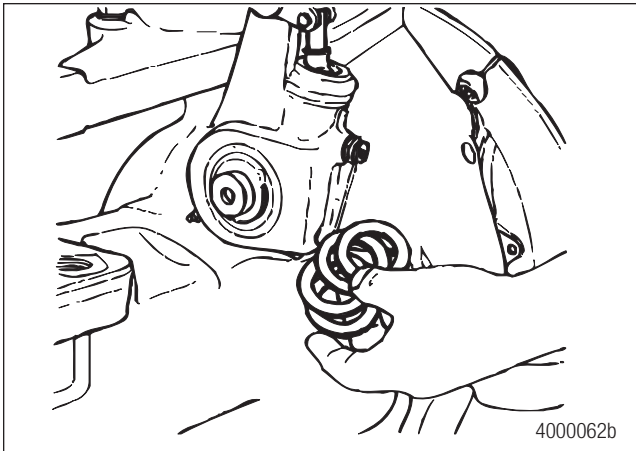

Figure 7.30
3. Install the slack adjuster washers at the adjuster end of the camshaft. Figure 7.30. Use as many washers as required to keep slack end play at 0.060-inch (1.5 mm) maximum.